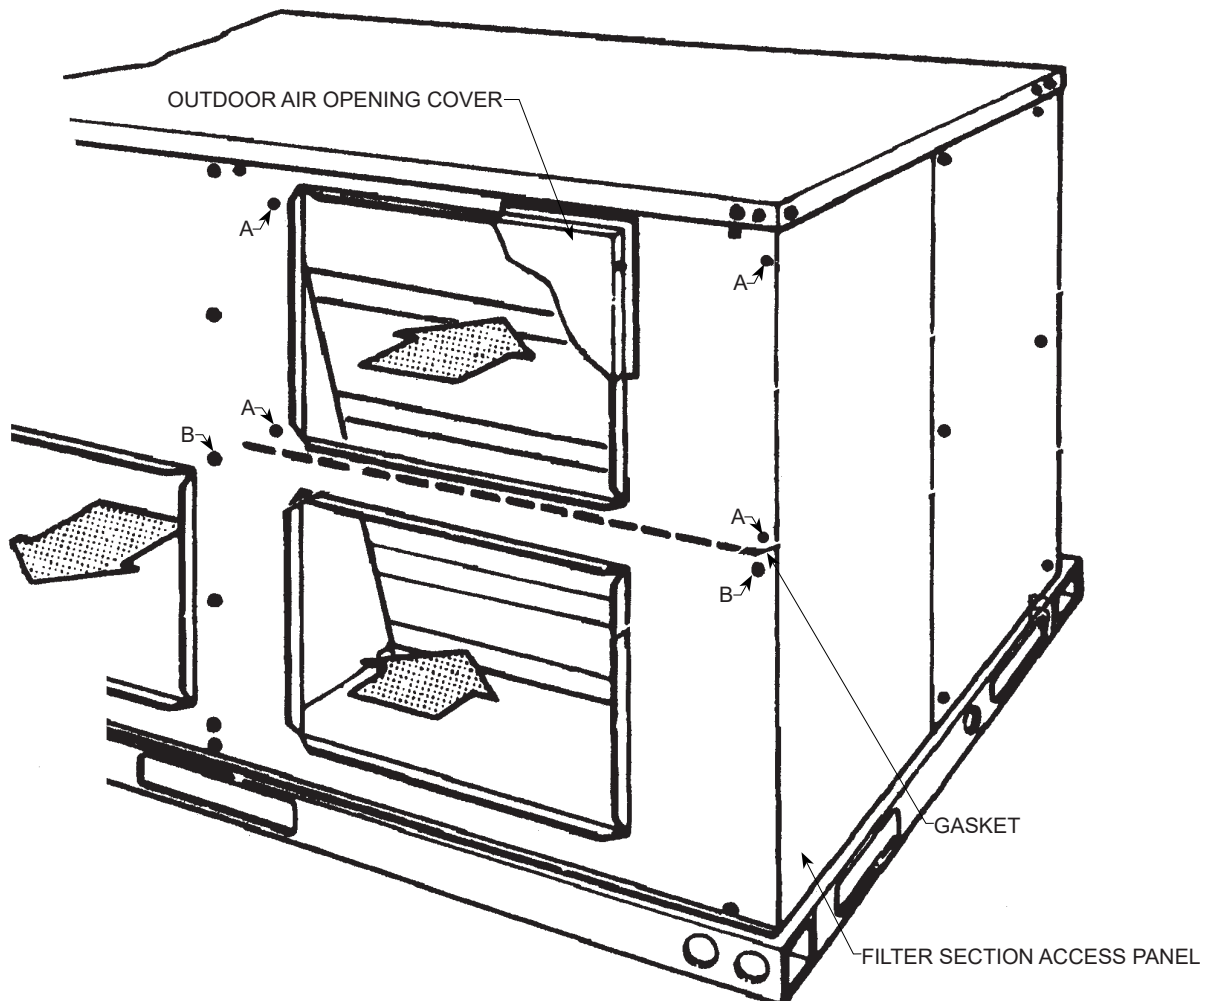

Figure 1
- e. Drill a  $\frac{1}{4}$ " clearance hole at dimple (A) shown in Figure 1 and remove the gasketed screw from position (B).
4. Secure the divider baffle to the unit duct panel at hole (B) using the gasketed screw removed in **Step 2 (e)** and one of the gasketed screws removed in **Step 1**.
9. Assemble the rainhood by attaching the LH and RH side plates to the top cover (2 screws each side). Apply gasketing to flange surface on each side plate. Extend gasketing beyond top and bottom of each flange to insure adequate corner sealing. Secure this assembly to the unit duct panel upper right corner). First, remove screw on unit top cover. Then slip flange of hood cover in under flange of unit top cover, replace screw, engaging hole in hood flange and tighten. Attach the two side plates to the unit duct panel by drilling 2 holes, ⅝" dia., (#26 drill) for each side plate, at dimples (E) provided in the unit panel. Secure with 4 of the gasketed screws that were removed in
10. Position bottom angle at bottom of hood, between the two side plates, but do not secure at this time. (Slotted openings **MUST** be downward for drainage as shown in **Figure 1**). After bottom angle is properly positioned, note where contact is made with the unit duct panel. Remove bottom angle and supply gasket (shipped with accessory) to this area to provide a seal. Reposition bottom angle and secure with 2 screws.